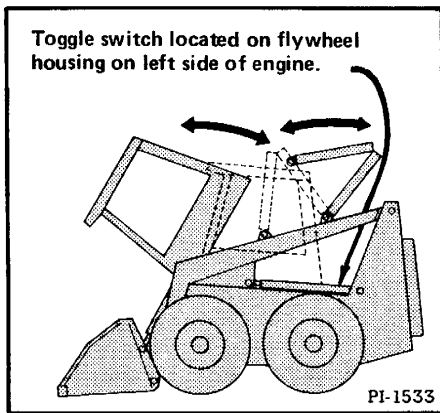

Fig. 18 ROPS Assembly
2. On loaders equipped with Roll Bar, raise lift arms and install lift arm cylinder stops or remove front two mounting bolts of Roll Bar and swing structure back (Figure 18).